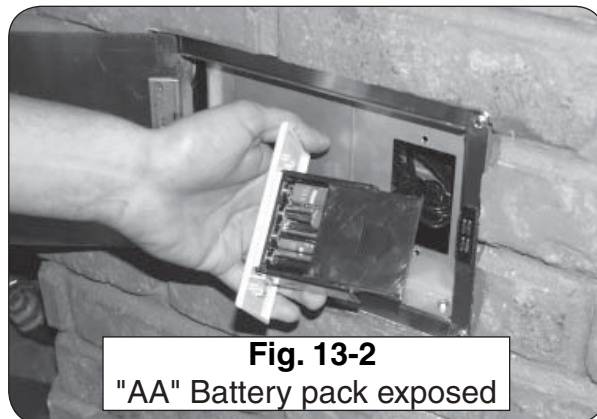

Fig. 13-2
To access the "AA" battery pack, unscrew and remove the two (2) retaining screws on the remote receiver. Pull out the remote receiver and then slide open the battery pack lid as shown in Fig. 13-2. Replace the old batteries with four (4) new "AA" batteries. Resecure the battery pack lid and return the remote receiver into the control panel. Screw in the two (2) retaining screws.